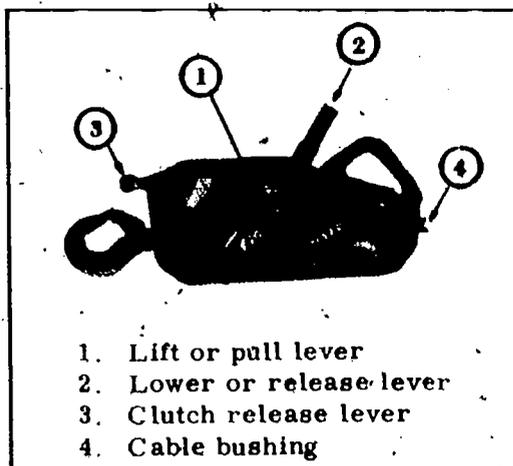

Fig 1-15. Model T-20 Griphoist.
b. Griphoist (fig 1-15). This item of equipment is one of the latest pulling and hoisting devices used by the Marine Corps. The Griphoist is used primarily to aid in sectionalizing equipment. It has a single-line capacity of 3,300 lb which can be increased with block and tackle and a 4-part line to pull or lift 6 tons. The Griphoist uses 1/2 in. wire rope usually issued in 60-ft lengths, but the length is not limited. A pressure of 77 lb is required on the 44 1/4-in. telescopic handle to lift a 3,300-lb load. One complete stroke of the handle, which closes to 25 in., will move the load 2 3/4 in. It operates on the draw-vise principle and lifting and lowering of the load is accomplished by two pairs of steel jaws controlled by a hand lever. The cable is held at all times, when loaded, by one pair of jaws. The power stroke lever is keyed to the Griphoist crankshaft by two shear pins designed to shear at about 6,600 lb. The shear pins protect the Griphoist from more serious damage and prevent further lifting or pulling. The load can be released or lowered with broken shear pins. The item should be cleaned and oiled before returning to storage. Excessive amounts of oil or grease will not harm the hoist.